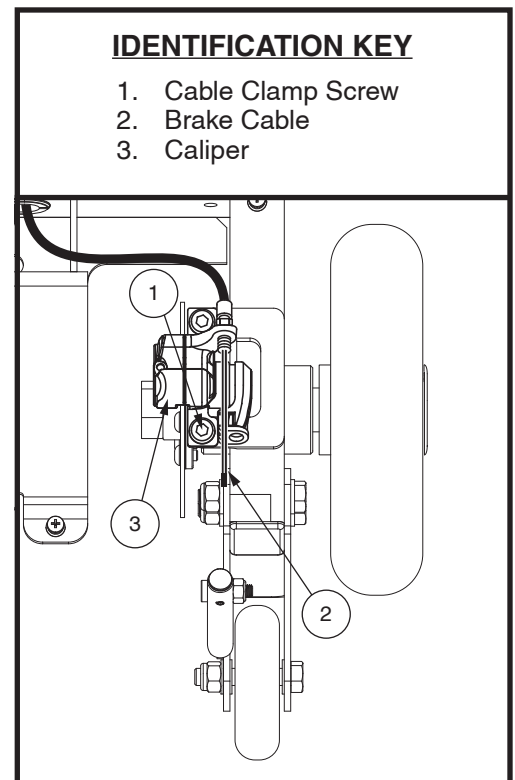

Figure 25. Brake Cable Adjustment
2. Locate the brake cable in the rear of the scooter near the caliper. **See Figure 25.**
5. Using your other hand, pinch the two (2) levers on the caliper. Use pliers to pull the brake cable.